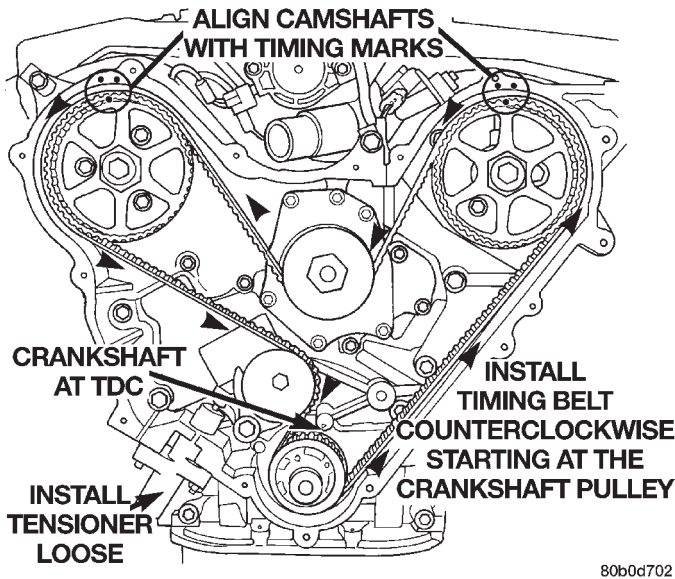

Fig. 53 Timing Belt—Installation
(6) Install the timing belt starting at the crankshaft sprocket going in a counterclockwise direction (Fig. 53). Install the belt around the last sprocket. Maintain tension on the belt as it is positioned